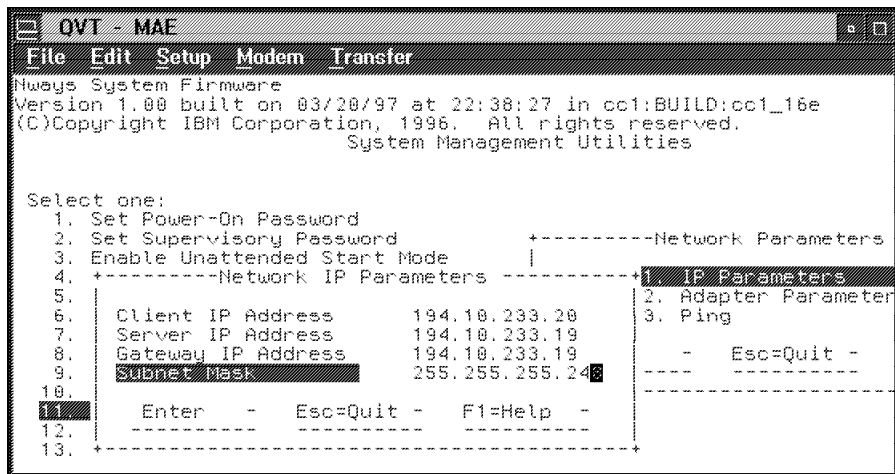

Figure 26-5. Setting the Multiaccess Enclosure IP Address for the Service Port
- i. As shown in Figure 26-5, enter the Client IP address (MAE address of the PCMCIA card), Server IP address (service processor address), Gateway IP address (if no router on the ring, enter the service processor IP address), then press Enter